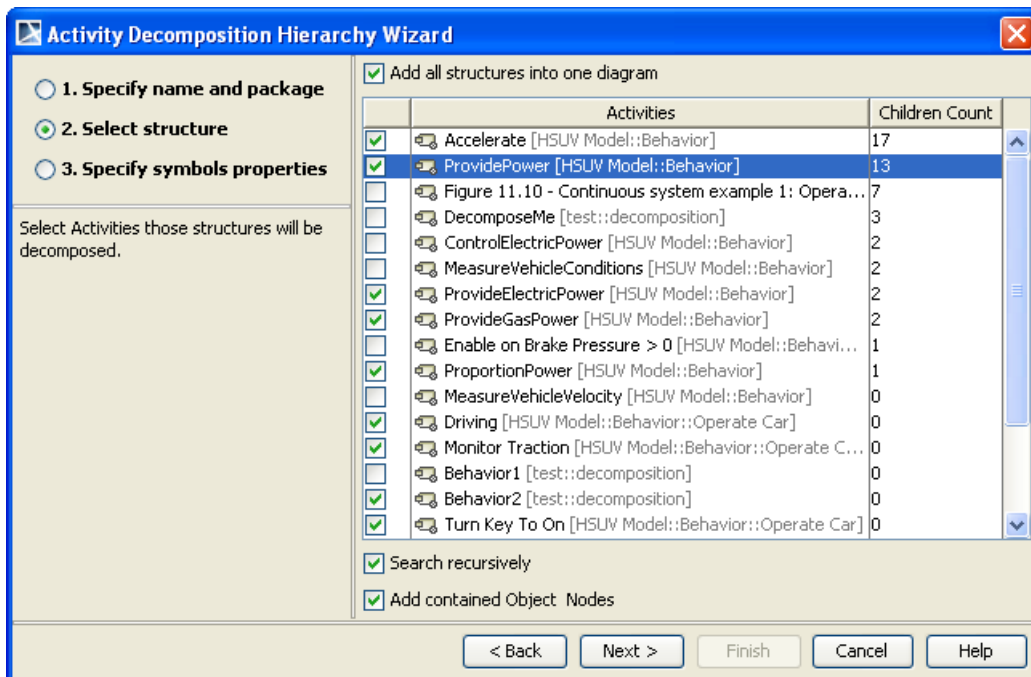

Figure 186 -- Activity Decomposition Hierarchy Wizard Dialog: Select Structure
- Mark the activity(ies) to be decomposed (Figure 186).
- Select **Add all structures into one diagram** to add all the activities into the diagram you want to create. If you do not select this option, one diagram will be created for each activity selected (Figure 186).
- Then, click **Next** if you want to customize the symbol properties of the diagram(s) to be created (step 3 below). Otherwise, click **Finish** (Figure 186).
NOTE	<ul style="list-style-type: none"> • The Children Count column (Figure 186, upper right-hand side) shows the number of behaviors included (plus the number of object nodes owned if the Add contained Object Nodes option is selected). • The Add contained Object Nodes option is selected by default. This option will display the types of the object nodes and connect them to the composition with activities containing object nodes. • The number of behaviors included also depends on the Search recursively option (selected by default). If not selected, the search will be conducted at only one level of the activity(ies) selected. If selected, the search will be conducted for each activity selected and for those activities invoked by call behavior actions in the selected activity, recursively.